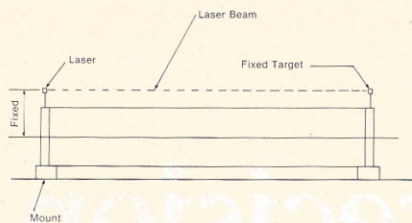

Figure 2. A laser provides a constant and precise datum line from which to base the movements of a precision X-Y indexer and the robot.
3. A laser was used to provide a constant and precise datum line from which to base the movements of an X-Y indexer and the robot (Figure 2).
6. A laser (Figures 2 and 3) is activated and the robot is notified of the ready condition.